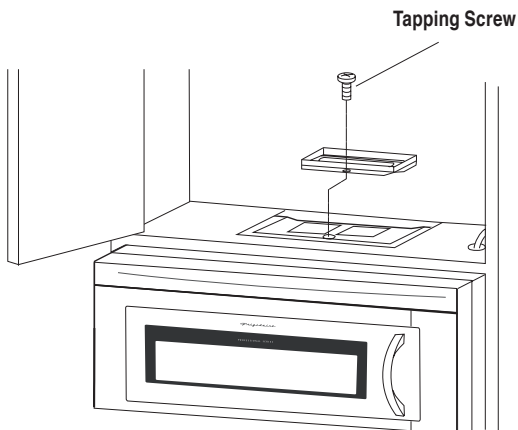

Figure 20
6. Attach the Exhaust Damper Assembly to the fan cover bracket on the top of the outercase cabinet after mounting the oven. To attach the Exhaust Damper Assembly, refer to MOUNTING OVEN TO THE WALL, See Figure 20 on page 7 and TOP CABINET TEMPLATE.